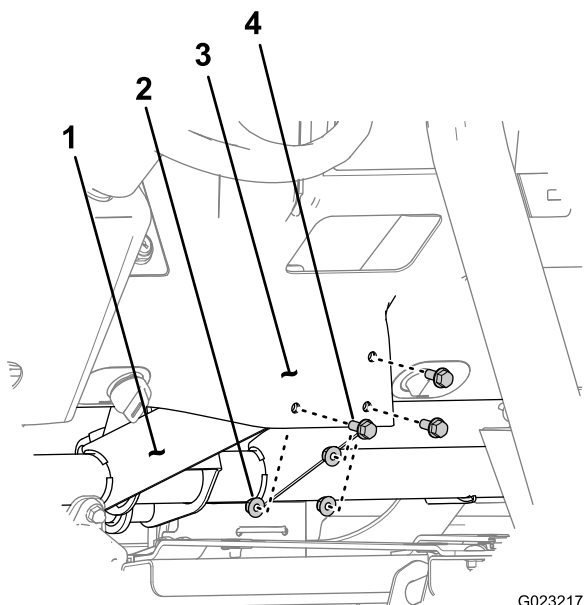

Figure 16
1. Remove the 3 flange bolts and 3 flange nuts that secure the dash panel at the lower center location to the dash support bracket (Figure 16).